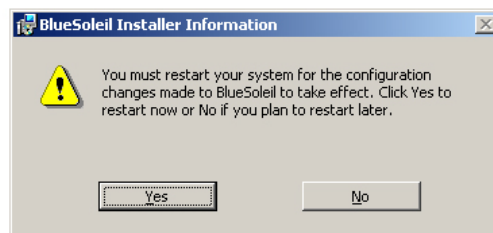

Figure 7-54: Reboot the Computer
Step 18: To complete the chipset driver installation, click **FINISH**. The user is then prompted to select to restart the computer now or later (Figure 7-54). For the settings to take effect, the computer must be restarted. Click **Yes** to restart the computer.